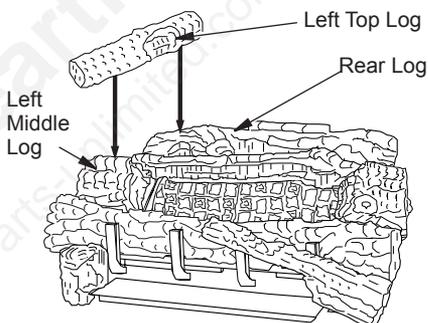

Figure 32 - Installing Left Top Log
- Place the left top log onto the rear log and the left middle log. Make sure to place the projection on the bottom of the left top log into the recessed areas on the rear and left middle logs (see Figure 32).